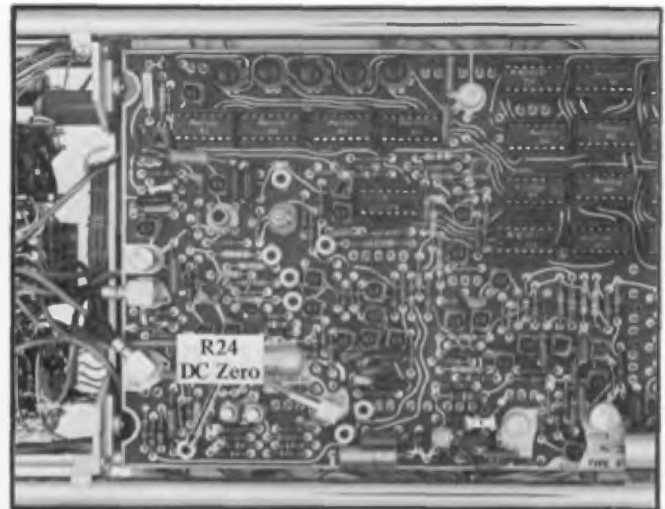

Fig. 5-9. Location of DC Zero, R24, instrument right side.
- d. Adjust R24 DC Zero, location shown in Fig. 5-9, for no trace shift as the MODE switch is changed from EXT to INT.